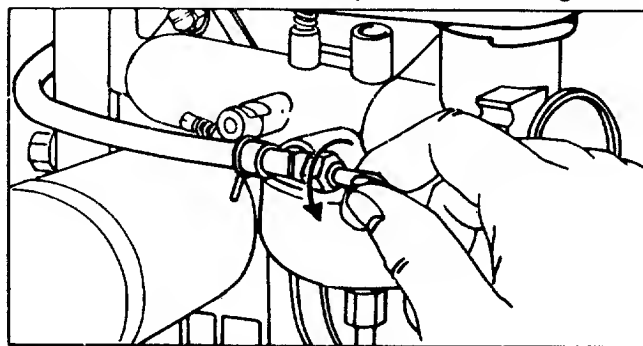

FIGURE 12. FUEL SHUT-OFF VALVE
- Step 1. Be sure the fuel shut-off valve is open. See figure 12.